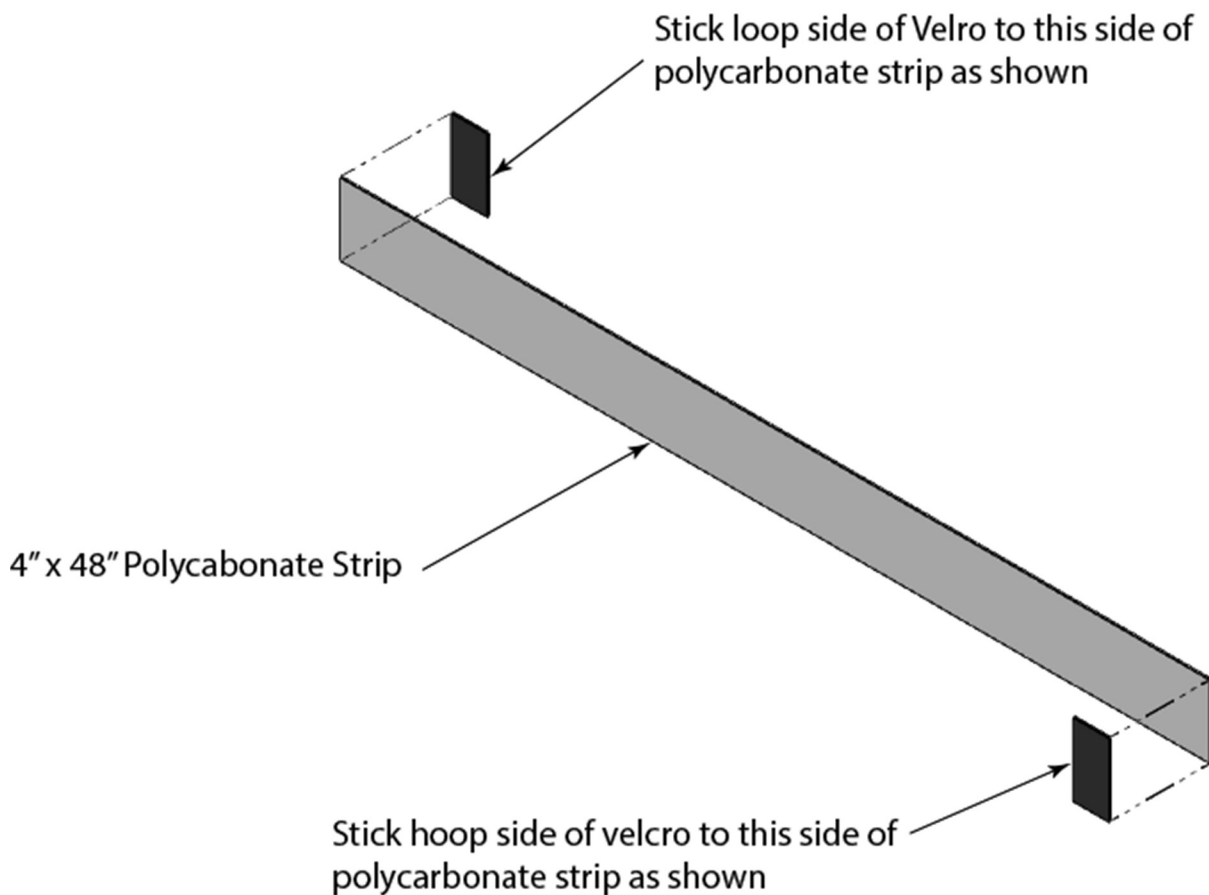

Fig 5a
Now let's move onto the outer corners. For this step you will need to take the polycarbonate sheets and cut strips that are 4" wide x 48" long. You will need to cut ten (10) of these strips. Once these are cut you should paint all these strips on what will be the outside surface of the wall. After these are completely dry, you will need to take the 2" wide Velcro Branded Plastic Hook and Loop and cut 4" wide pieces and apply as shown in Fig 5a. Ensure you pay attention to the hook side and loop side in Fig 5a.